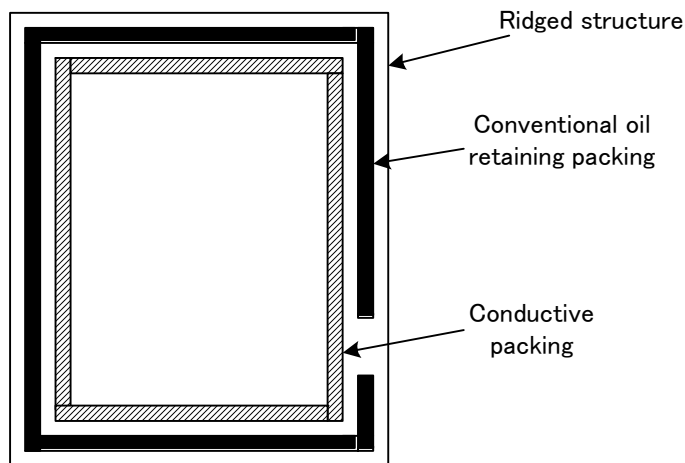

Figure-4: Door Structure (Inside)
- Conductive packing should be used between the doors and main unit, and the paint on the joint sections should be masked to provide electrical conductance. (Refer to Figure-4)